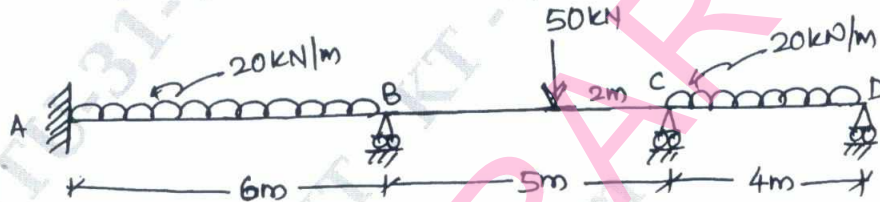

Fig.Q.5
- 5 Analyze and draw BMD for the continuous beam shown in Fig.Q.5 by Kani's method, if support 'B' sinks by 10mm and $E = 2 \times 10^5 \text{ N/mm}^2$, $I = 1.2 \times 10^4 \text{ m}^4$. (16 Marks)